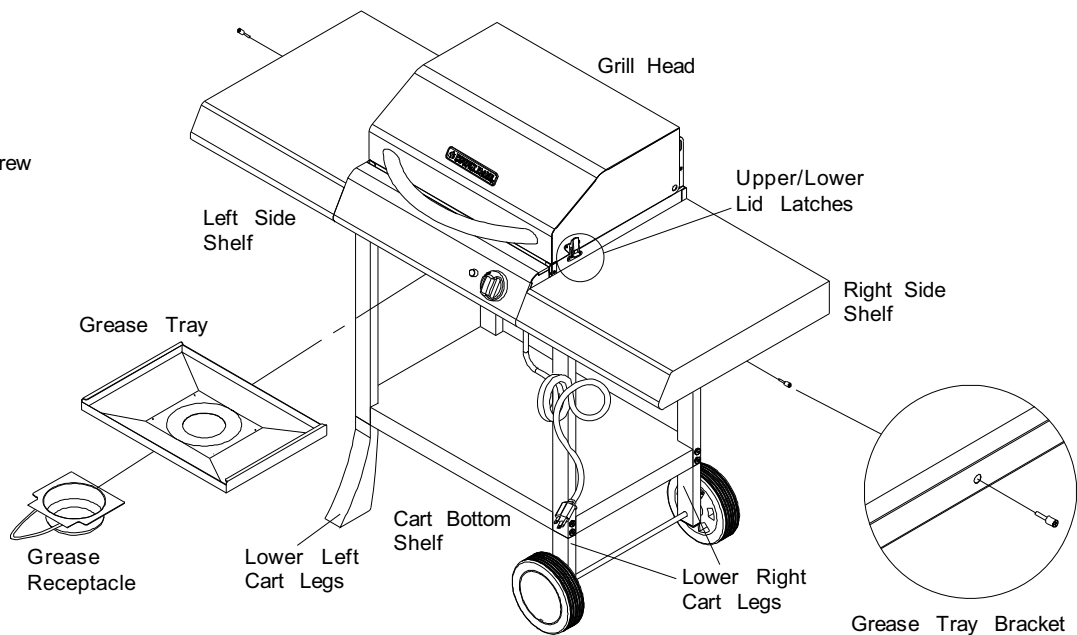

Fig. 9
## 8 Install Grease Tray and Grease Receptacle (Fig. 9)
2. Secure Special Flat Head Screw 1/4 in. x 7/16 in. to Grease Tray Bracket (Fig. 9)